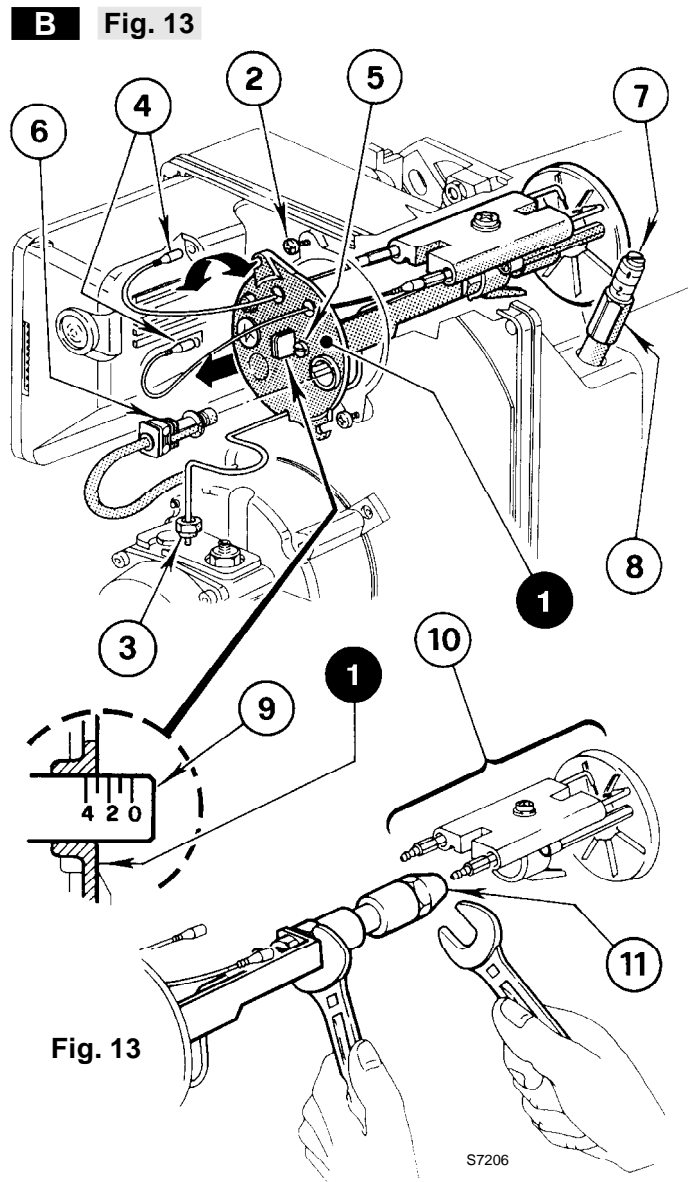

Fig. 13
- **Screw the nozzle (6) correctly and tighten it as shown in the figure.**
B Fig. 13, page 7 – Remove nozzle-holder assembly (1) after loosing screws (2) and nut (3), remove the small cables (4) from the control box and the photoresistance (6).
(see fig. 13)
4 AIR DAMPER ADJUSTMENT (see fig. 13)